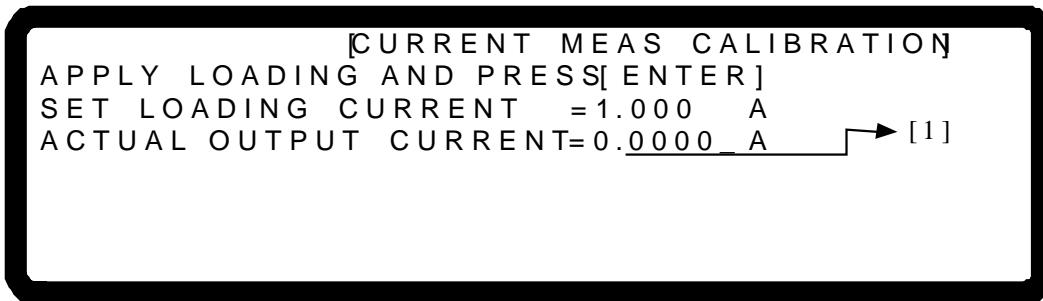

Figure 3-143
5. Press “**ENTER**” to do the first low current range point calibration. The system will output a fixed voltage and then set the Electronic Load to draw 1.0A current. The cursor will stop at position [1] as shown in Figure 3-143. Enter the current read by the ULTRASTAB SATURN (DVM) to position [1] and press “**ENTER**” to confirm it.